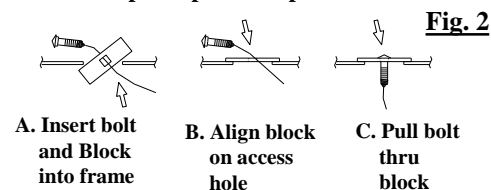

Fig. 2
1. Remove existing **INNER** tail pipe hanger 8mm bolt and replace with supplied 8mm bolt (1). Tighten bolt to specification
2. Using supplied bolt leader install carriage bolt (5) and spacer block (6) into passenger side hole in rear suspension as shown, see figure 2.